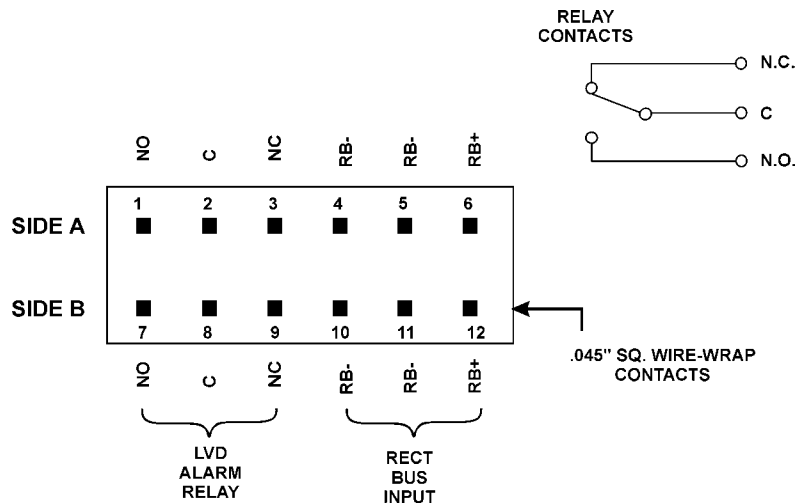

Figure 5. Wire-Wrap Terminal Connections
12.1 The center of the back panel has connections to the Form C relay contacts for connection to external audible or visual alarm circuits. See Figure 5.